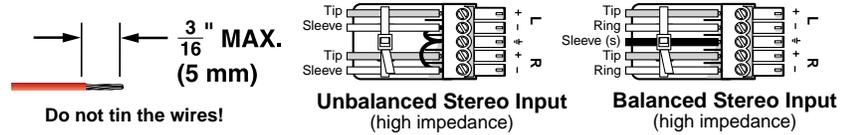
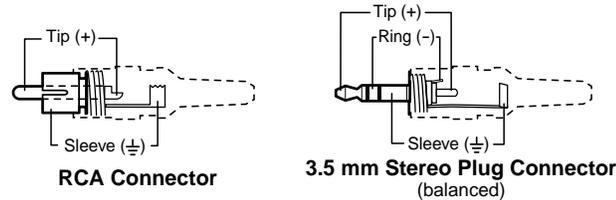

Figure 2-6 — Captive screw connector wiring for inputs
Figure 2-7 — Typical audio connectors
- ⑤ **Input audio connectors** — Connect balanced or unbalanced stereo or mono audio to these 3.5 mm, 5-pole captive screw connectors. Connectors are included with the seamless switcher, but you must supply the audio cable. Figure 2-6 shows how to wire a connector for the appropriate input type. Use the supplied tie-wrap to strap the audio cable to the extended tail of the connector. High impedance is generally over 800 ohms.
NOTE When making connections for the seamless switcher from existing audio cables, see figure 2-7. A mono audio connector consists of the tip and sleeve. A stereo audio connector consists of the tip, ring, and sleeve. The tip, ring, and sleeve wires are also shown on the captive screw audio connector diagram, figure 2-6.